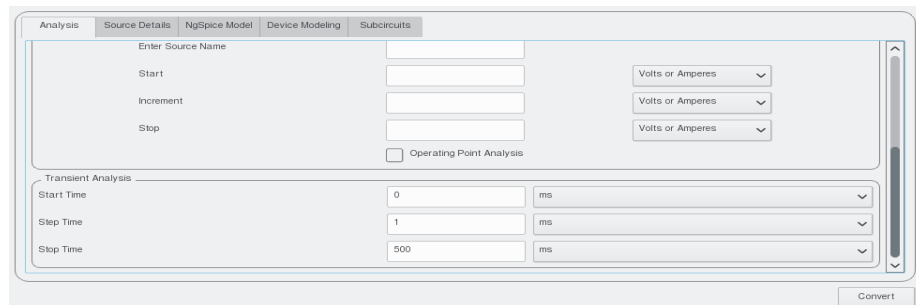

Figure 7.5: Choose analysis type as 'transient' and enter the values
**Analysis:** Choose analysis type as 'Transient'. Give the values of time variables as shown in Figure 7.5. Enter the time to be varied from 'Start time=0 ms' to 'Stop time=500ms' with a 'Step time=1 ms'.